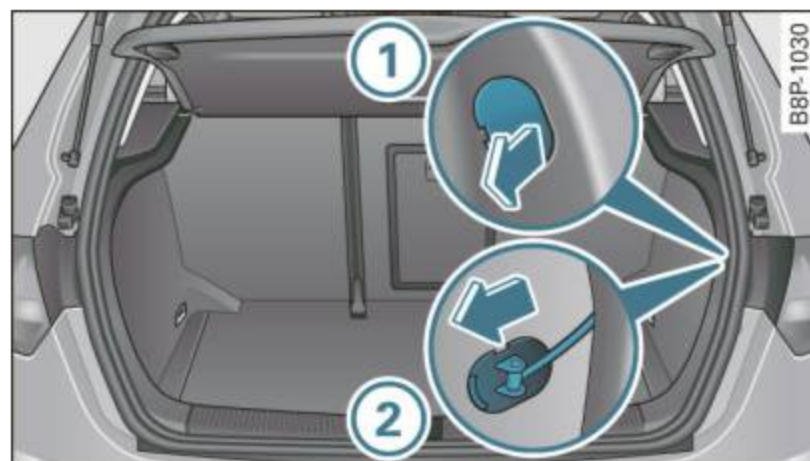

Fig. 158 Inside the luggage compartment: Opening the fuel filler flap by hand
- Use the screwdriver (vehicle tool kit) to pry the cover off at the recess ⇒ fig. 158 ①.
- Pull the actuator in the direction of arrow ② to release the fuel filler flap ⇒ fig. 158.